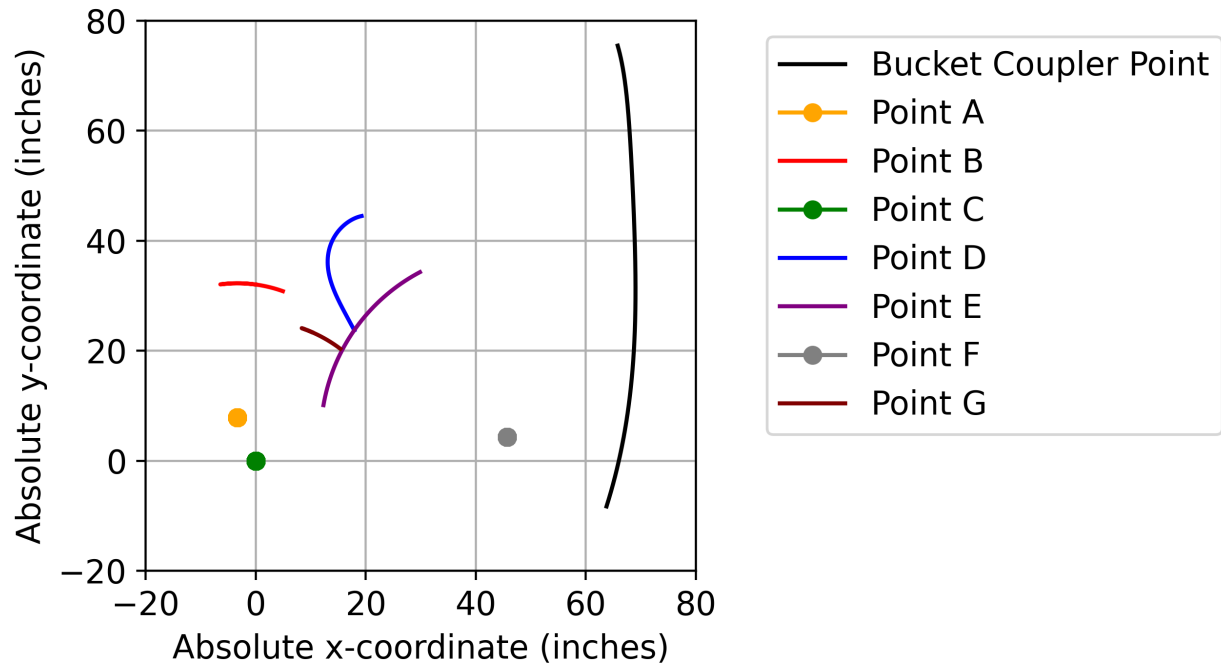

Figure 5: Path of absolute position of linkage joints
I then took this solution and used it to find solutions along a range of input angles. Because angles that are close together will have similar solutions, I was able to start at my calculated solution and use it as the initial guess for a slightly different angle. This would quickly converge to another solution close by, yielding a correct solution. Using this new solution as my next guess, I was able to repeat this and get the solution for a range of input angles. I then wrote equations for the absolute position of each joint in the linkage, with the origin at Joint C. The vector forms of these equations are shown below in eqs. (23) to (30) (Note some valu). Using these equations and the range of solutions I found previously I plotted the path each joint followed for that range of angles, shown in Figure 5.